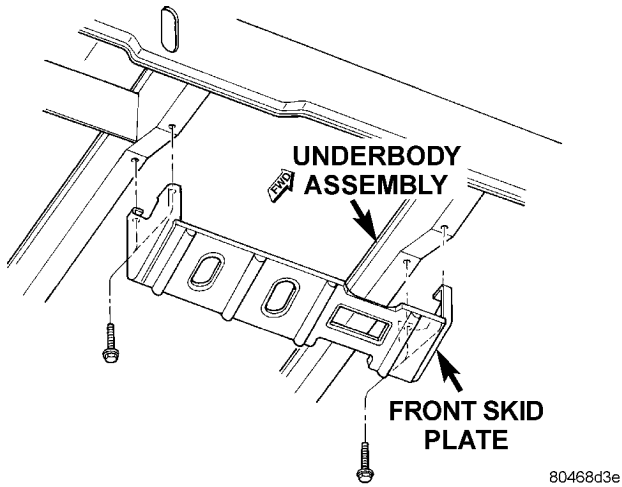

Fig. 2 Front Skid Plate
- (1) Position a support under skid plate.
- (2) Remove the bolts that attach skid plate to frame (Fig. 2).
- (3) Lower the skid plate.